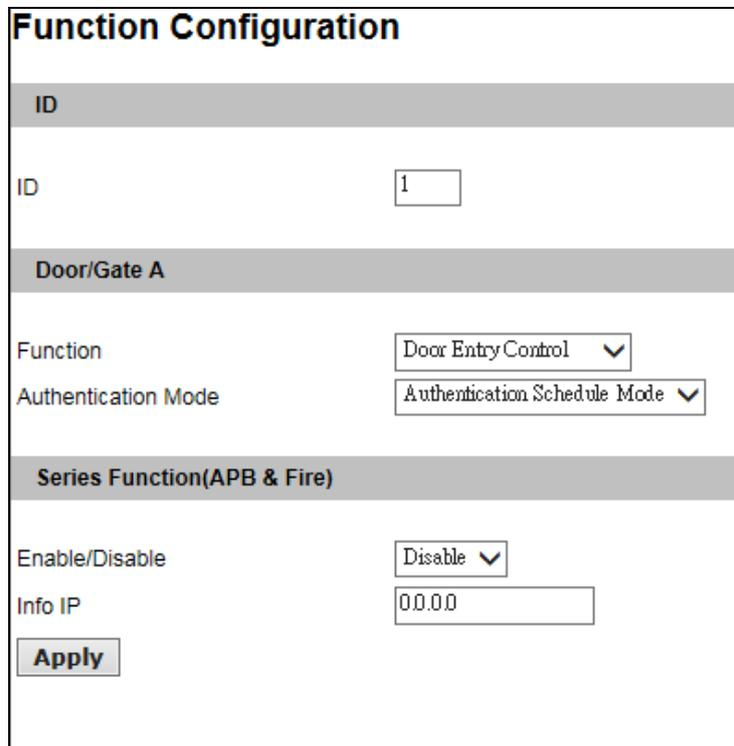

Figure 4-6
The content of the Parameter Configuration page change is based on your settings for **Door/Gate #** in the **Function Configuration** page (Figure 4-6).
- When **Door Control** is selected in the **Function Configuration** page (Figure 4-6), these options become available:
- When **Parking Control** is selected in the **Function Configuration** page (Figure 4-6), these options become available:
- When **Elevator Control** is selected in the **Function Configuration** page (Figure 4-6), these options become available:
**[Common Password]** When **Fixed Card/Common Mode** is selected as **Authentication Mode** in the **Function Configuration** page (Figure 4-6), you can gain access by using the card or entering this Common Password (door's password).